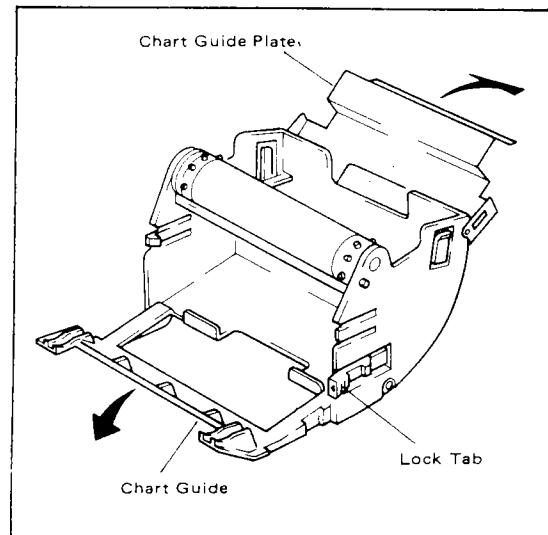

Figure 5-4.
- (4) Press the sides of the chart guide plate at the top rear of the chart compartment and swing the guide plate up. (See Figure 5-4.)
- (5) At the front, pull/swing the front transparent chart guide down. (See Figure 5-4.)